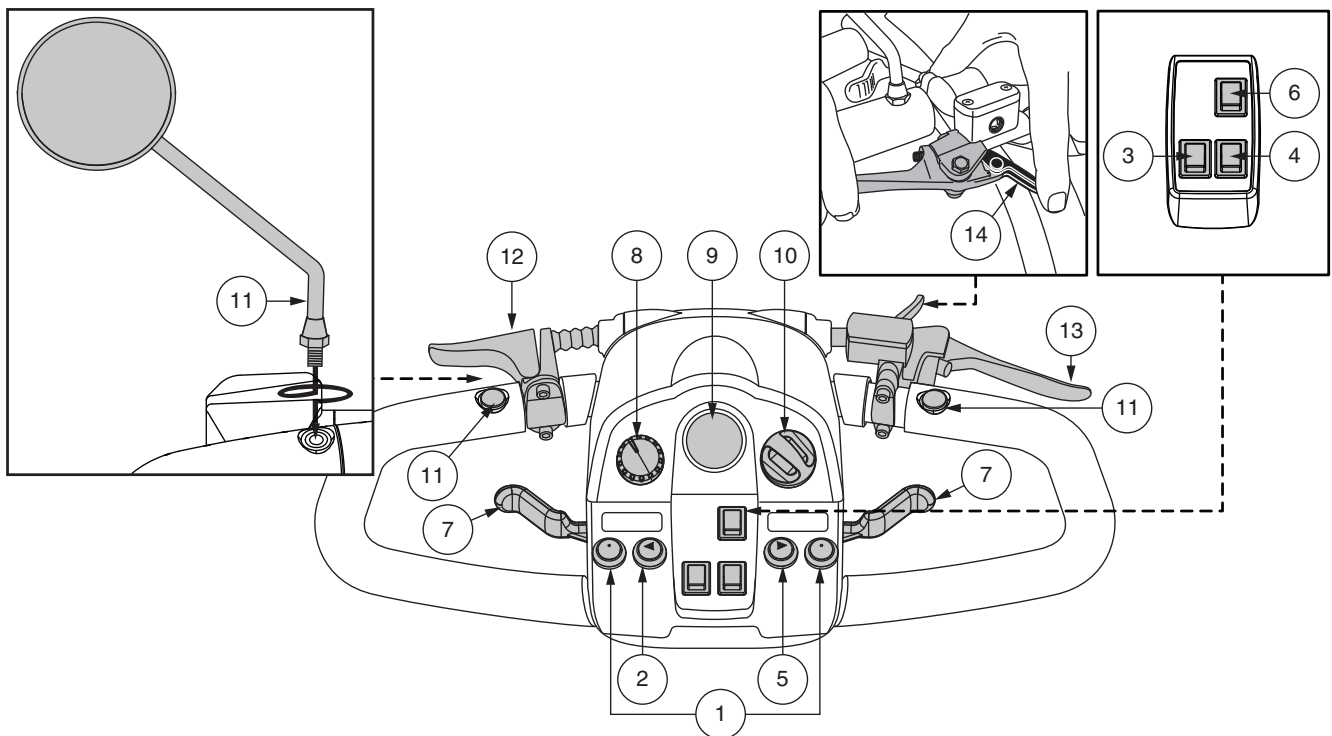

Figure 1. Tiller Console Components - Style A
The tiller console houses all of the controls needed to drive your scooter, including the speed adjustment dial, key switch, battery condition meter, status LED, horn buttons, turn signal buttons, handbrake lever, tiller adjustment lever, and the throttle control lever. Please note that some of the features listed in this section are optional items and may not appear on your scooter. See figure 1.
Your scooter is equipped with a handbrake lever which is located on the tiller handle. See figure 1 and figure 7. This lever provides you with additional stopping power. The handbrake is manual and operates independently of your scooter's regenerative braking system which is engaged during operation of the scooter by releasing the throttle control lever.
**NOTE:** If your handbrake is equipped with a lock function as shown in figure 1 or figure 7, you can activate the brake lock function by squeezing the handbrake lever and rotating or pushing the lock lever to engage the lock. To release the handbrake lock, fully squeeze the handbrake lever. See figure 1 or figure 7.